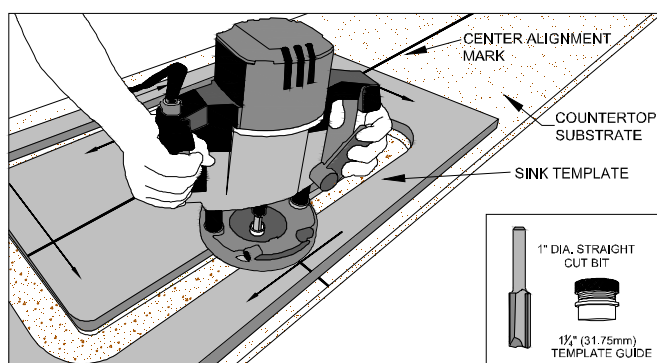

Figure 10B
- Once set, route a small area along the remaining inside substrate of the sink cutout only. (FIG. 10B)
- Once set, route along the remaining inside substrate of the sink cutout only, this will create a 1" wide channel. (FIG. 10B)